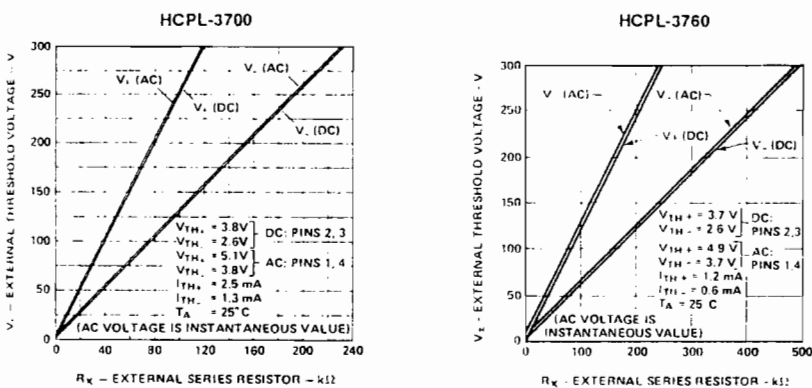
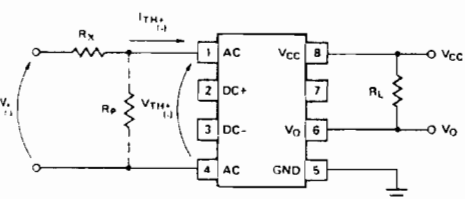

Figure 11. Typical External Threshold Characteristics,  $V_t$  vs.  $R_{EX}$ .
Figure 12. External Threshold Voltage Level Selection.
The HCPL-3700/3760 optocouplers have internal temperature compensated, predictable voltage and current threshold points which allow selection of an external resistor,  $R_x$ , to determine larger external threshold voltage levels. For a desired external threshold voltage,  $V_x$ , a corresponding typical value of  $R_x$  can be obtained from Figure 11. Specific calculation of  $R_x$  can be obtained from Equation (1). Specification of both  $V_x$  and  $V_{TH}$  voltage threshold levels simultaneously can be obtained by the use of  $R_x$  and  $R_p$  as shown in Figure 12 and determined by Equations (2) and (3).